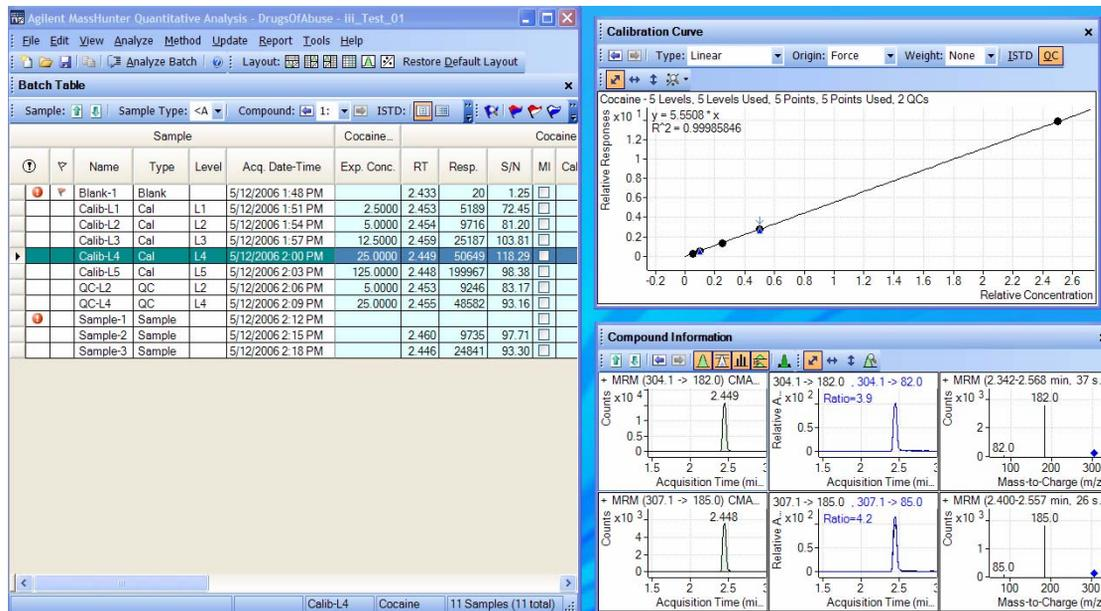

Figure 9 Display with Calibration Curve and Compound Information windows floating
- 6 Create the layout as shown in Figure 9 on page 53, with the calibration curve and compound information windows floating.
- Resize the windows to match the layout in Figure 9.